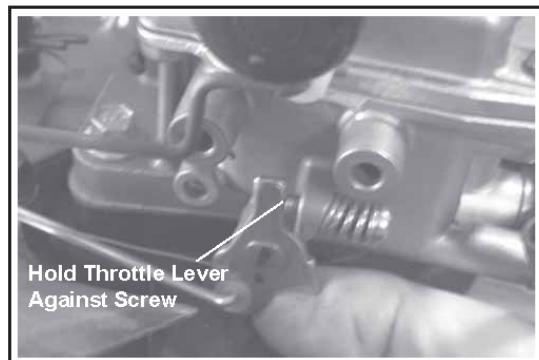

Figure 19. Holding Throttle Lever Against Idle Stop Screw.
2. Move the throttle control to the idle position. Hold the governor lever away from the carburetor, or hold the throttle lever so it is tight against the idle speed adjusting screw, to negate the governor activation. See Figure 19. Check the speed with a tachometer and adjust it to 1500 RPM.